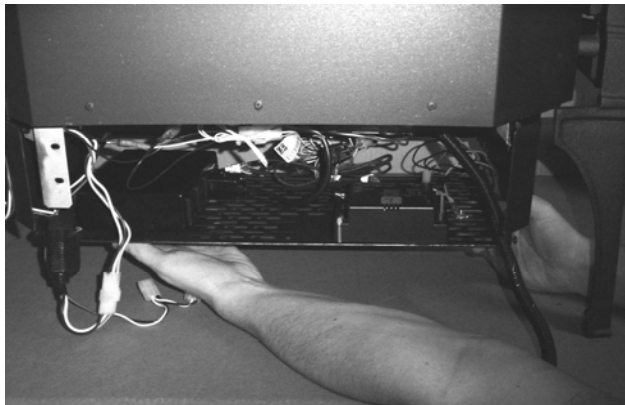

Figure 32
- 21 Re-attach the bottom plate to stove, taking care to prevent any wiring from being pinched (see Figure 32). Use the included wire ties, if necessary, to keep all wiring from contacting any hot or moving components.